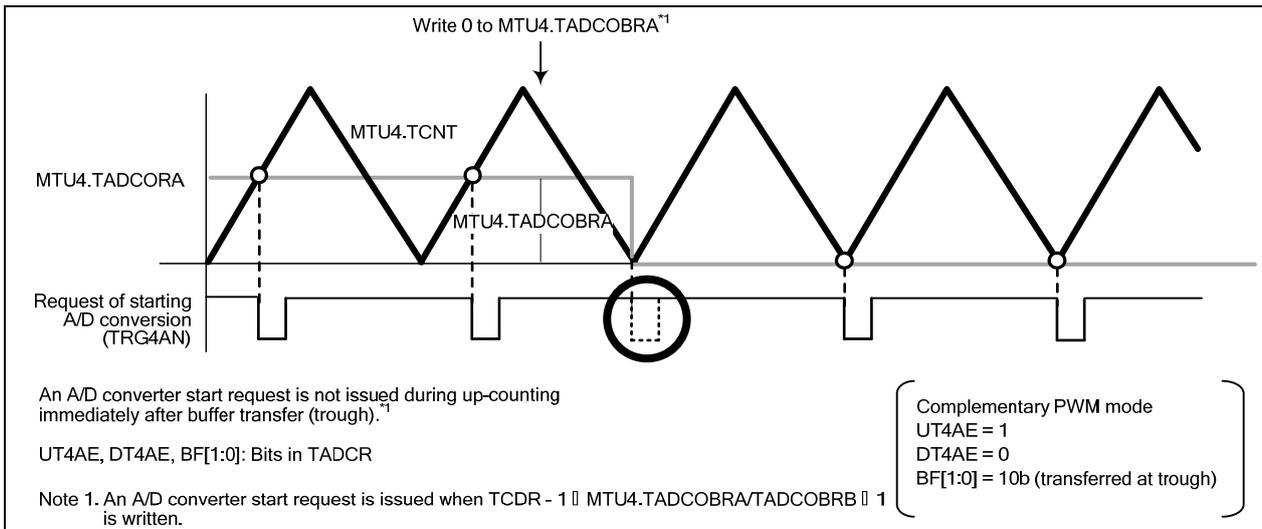

Figure 2.1 A/D Converter Start Request When 0 is Written to MTU4.TADCOBRA
- When MTUn.TADCOBRA/MTUn.TADCOBRB is set to 0 and the UTnAE or UTnBE bit in MTUn.TADCR is set to 1, and the result is transferred to the buffer when counting by MTUn.TCNT reaches its trough, an A/D converter start request is not generated during the up-counting period immediately following the transfer (Figure 2.1).